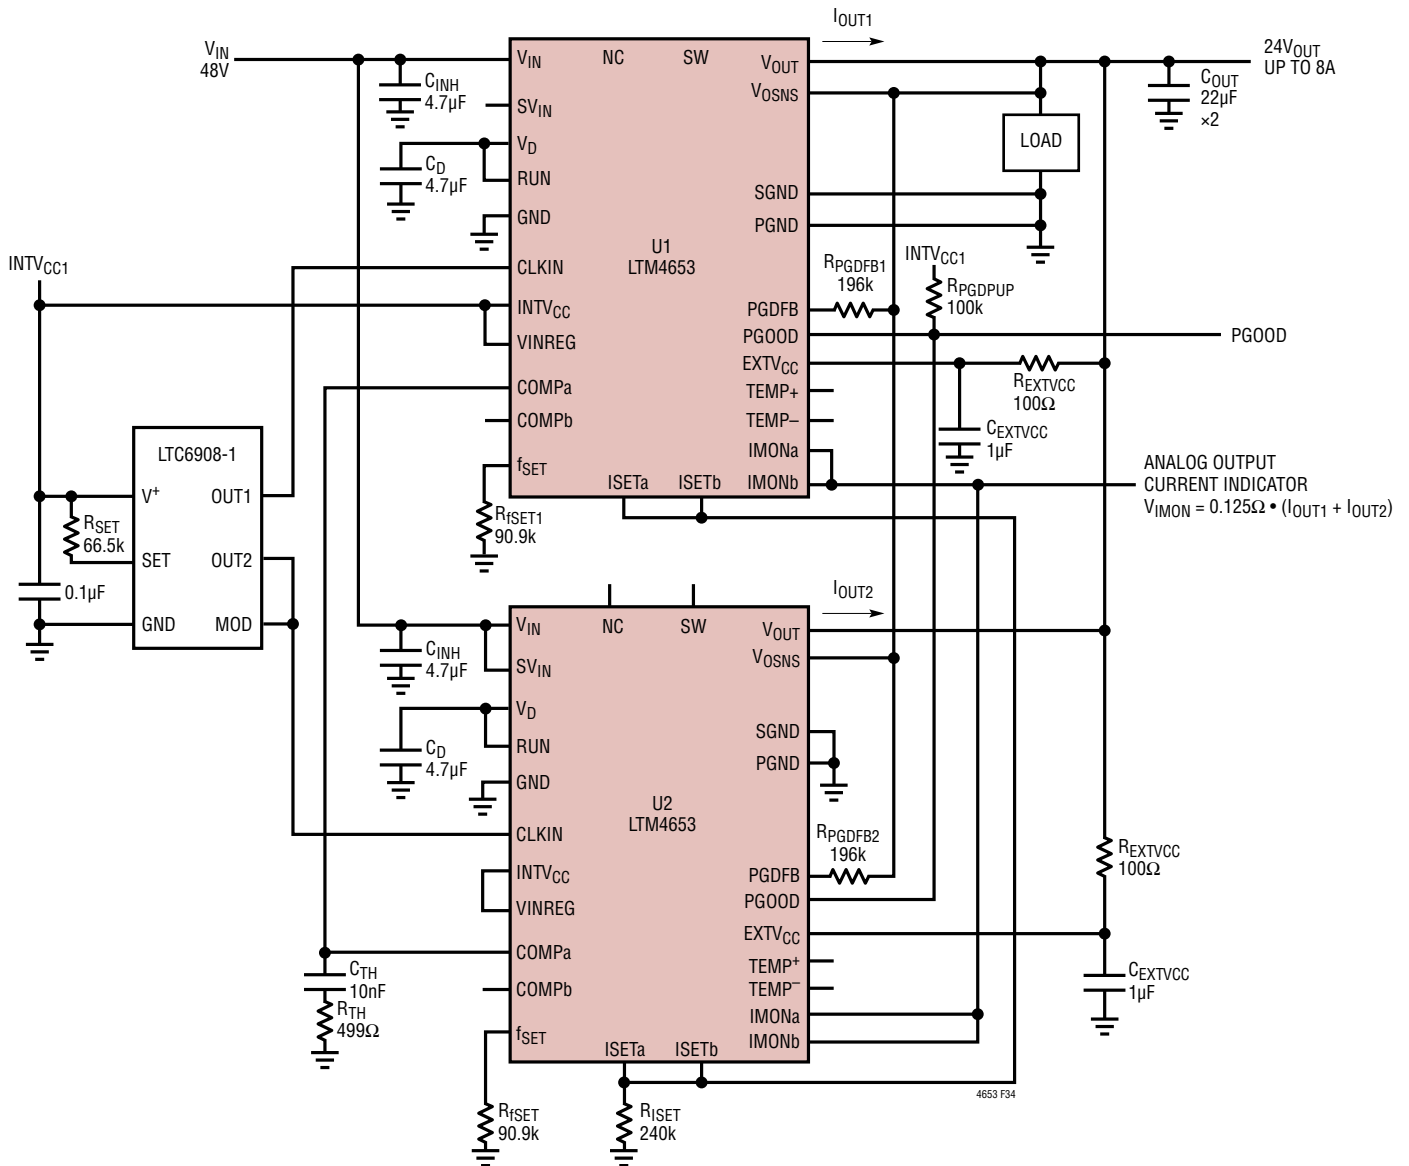

Figure 34. 24V Output at Up to 8A from 48V Input, 2-Phase Parallel with Analog Output Current Indicator
- For parallel module applications, connect the  $V_{OUT}$ ,  $V_{OSNS}$ , RUN, ISETa, COMPa and PGOOD pins together as shown in Figure 34.